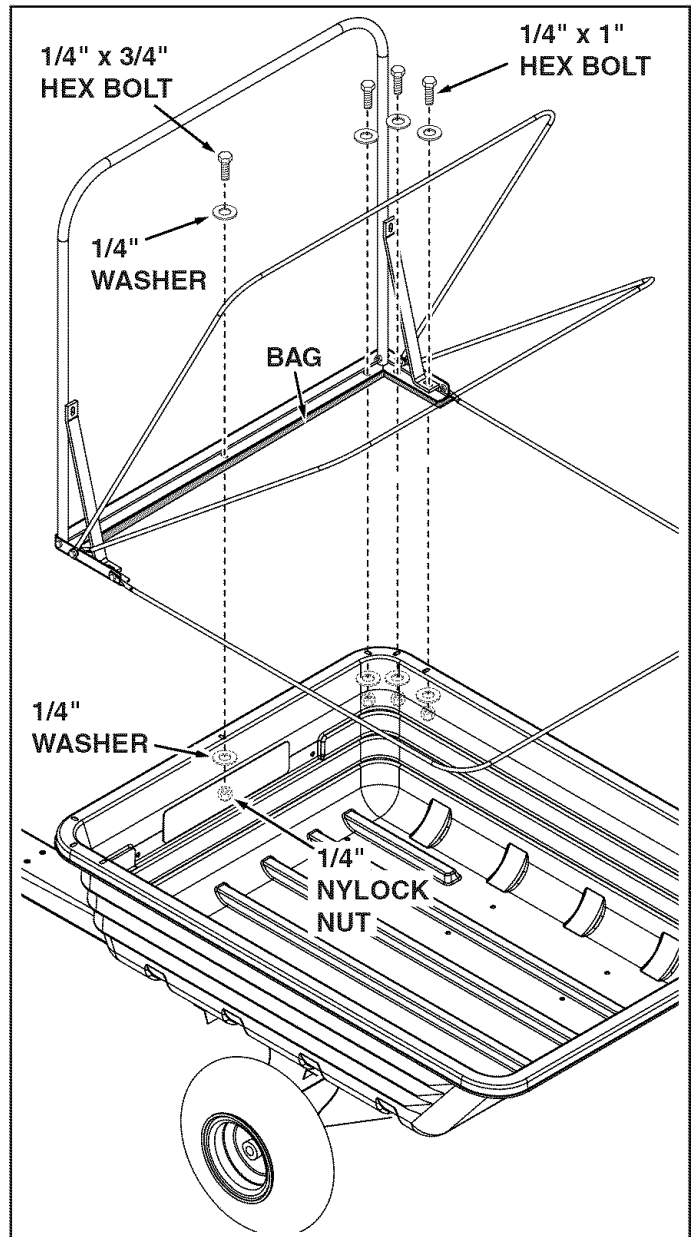

**FIGURE 20**
- Attach the braces to the front support tube using two 1/4" x 1-1/4" hex bolts and 1/4" lock nuts. **DO NOT TIGHTEN YET.** See figure 20.